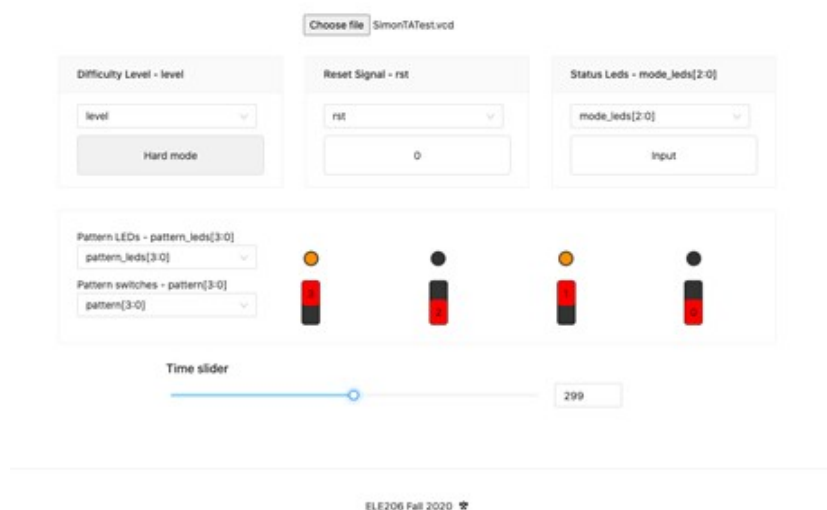

Figure 5.2: Sample output of the VCD viewer.
- Use the “Time Slider” to check your signals are changing correctly. Your viewer should look like Fig. 5.2 after the above steps (the name of your vcd file and time may be different).